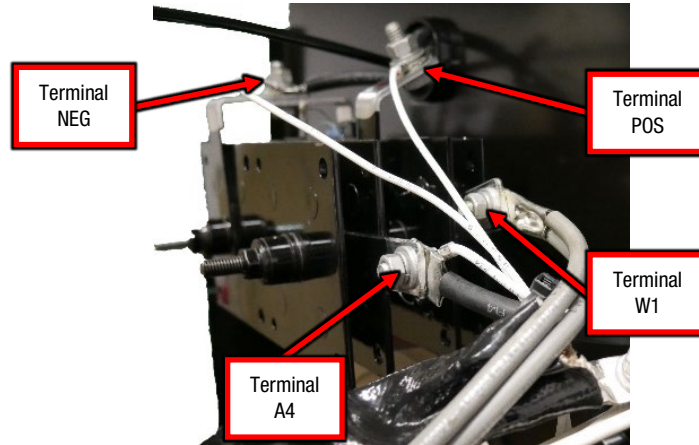

Figure F.2
A.2. Label and disconnect the following connections, refer to Figure F.2.
A.3. Perform the static measurements in Test Table 1, refer to Figure F.2 for test point locations.